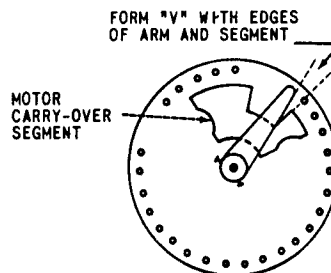
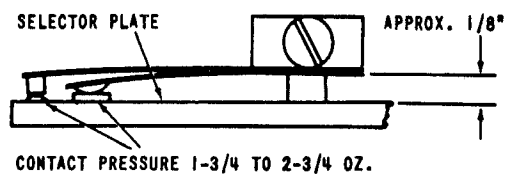

Figure 14.
Figure 15.
2. Set the Contact Arm on the shaft so the edge of the blade forms a "V" with the edge of the motor carry-over segment as shown in *Figure 14*, and the lower part of the hub is spaced approximately $1/8$ " from the surface of the selector plate as shown in *Figure 15*.